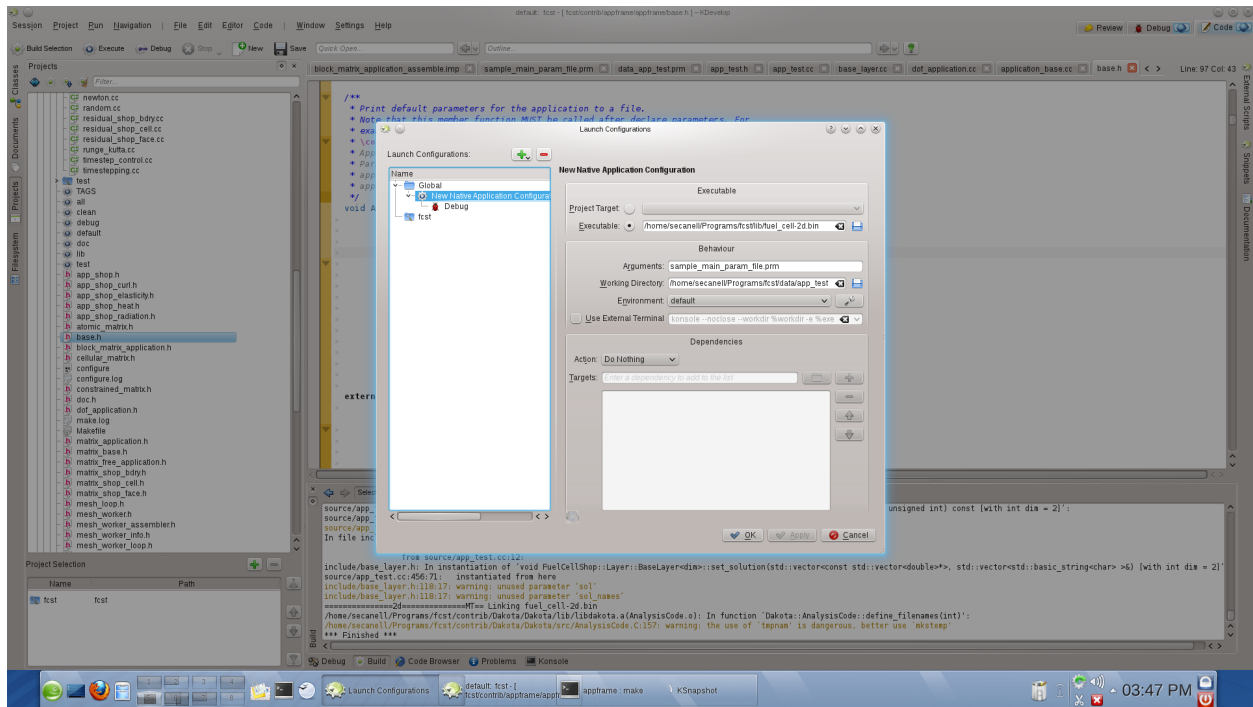

Figure 7.3: Configuring Launches in KDevelop.
- Go to **Run > Configure Launches...** . The window in Figure 7.3 will open.
- Select **New Native Application Configuration**, then on the right of the window, under Executables, enter the OpenFCST binary file, i.e. `OpenFCST_directory/Install/bin/fuel_cell-2d.bin`. Under Behaviour, in Working Directory enter the data folder from which you would like to run the code. In Arguments, enter the main parameter file, see Figure 7.3.